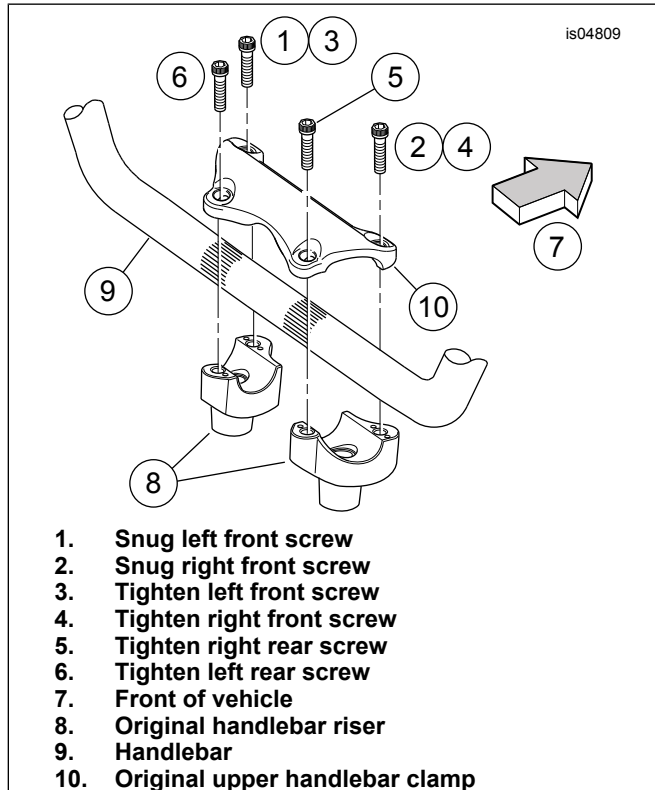

Figure 4. Handlebar Clamp Screw Tightening Sequence
3. See Figure 4. Snug, but do not fully tighten, **only** the front two upper clamp screws in the following sequence:
- a. First, snug the left front screw (1).
- b. Then, snug the right front screw (2).
11. See Figure 4. Tighten the upper handlebar-clamp screws as follows:
- a. Tighten the left-side front screw (1) until the left side of the handlebar clamp makes contact with the front of the left-side handlebar riser.
- b. Tighten the right-side front screw (2) until the right side of the handlebar clamp makes contact with the front of the right-side handlebar riser.
- c. Tighten the left-side front screw (3) to 21.7–27.1 N·m (16–20 ft-lbs).
- d. Tighten the right-side front screw (4) to 21.7–27.1 N·m (16–20 ft-lbs).
- e. Tighten the right-side rear screw (5) to 21.7–27.1 N·m (16–20 ft-lbs).
- f. Tighten the left-side rear screw (6) to 21.7–27.1 N·m (16–20 ft-lbs).